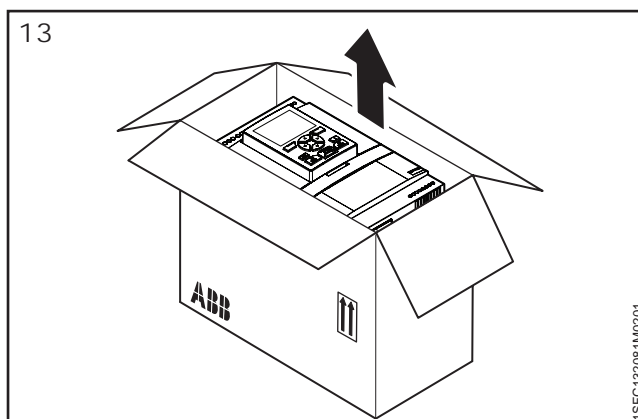

Figure 13: Receiving, unpacking and checking
- Check that the package is placed with the correct side up, **see Figure 13.**